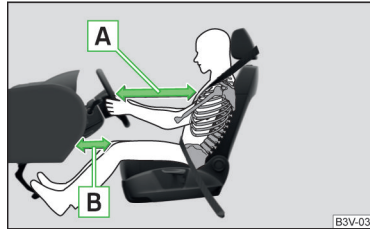

Fig. 22
- It is important for the driver and front passenger to maintain a minimum distance of 25 cm from the steering wheel or the control panel » Fig. 22 - . If you do not observe this distance, the airbag cannot protect you - risk to life! The front seats and the head restraints must always be correctly adjusted to match the body size of the occupant.
- Adjust the driver's seat in a forward/back direction so that there is a gap of at least 6 cm between the legs and the dashboard in the vicinity of the knee airbag » Fig. 22 - **B**. If it is not possible to meet this requirement due to your body size, visit a specialist garage.